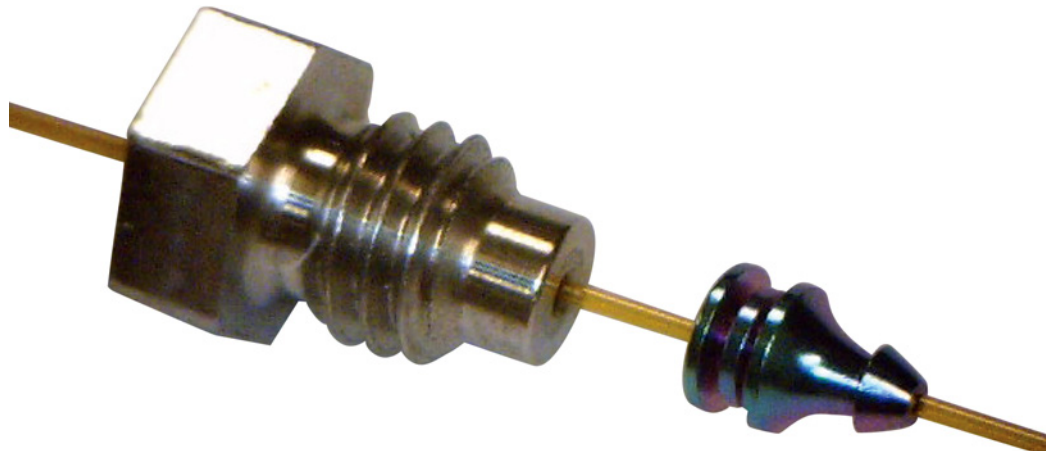

Figure 14. Ferrule swaged to column and internal nut
- 4 Using the 1/4-inch open-ended wrench, turn the internal nut an additional 15 to 20 degrees clockwise to assure the ferrule is properly swaged onto the column (see **Figure 14**).